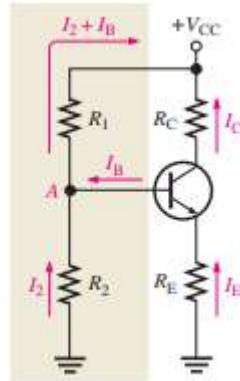

Fig. 2.12 Voltage-divider bias
- Up to this point a separate dc source, V_{BB} was used to bias the base-emitter junction because it could be varied independently of V_{CC} and it helped to illustrate transistor operation. A more practical bias method is to use V_{CC} as the single-bias source, as shown in Fig. 2.12. To simplify the schematic, the battery symbol is omitted and replaced by a line termination circle with a voltage indicator (V_{CC}) as shown.
- A dc bias voltage at the base of the transistor can be developed by a resistive voltage-divider that consists of R_1 and R_2 , as shown in Fig. 2.12. V_{CC} is the dc collector supply voltage. Two current paths are between point A and ground: one through R_2 and the other through the base-emitter junction of the transistor and R_E .
- Generally, voltage-divider bias circuits are designed so that the base current is much smaller than the current (I_2) through R_2 in Fig. 2.12. In this case, the voltage-divider circuit is very straightforward to analyze because the loading effect of the base current can be ignored. A voltage divider in which the base current is small compared to the current in R_2 is said to be a stiff voltage divider because the base voltage is relatively independent of different transistors and temperature effects.